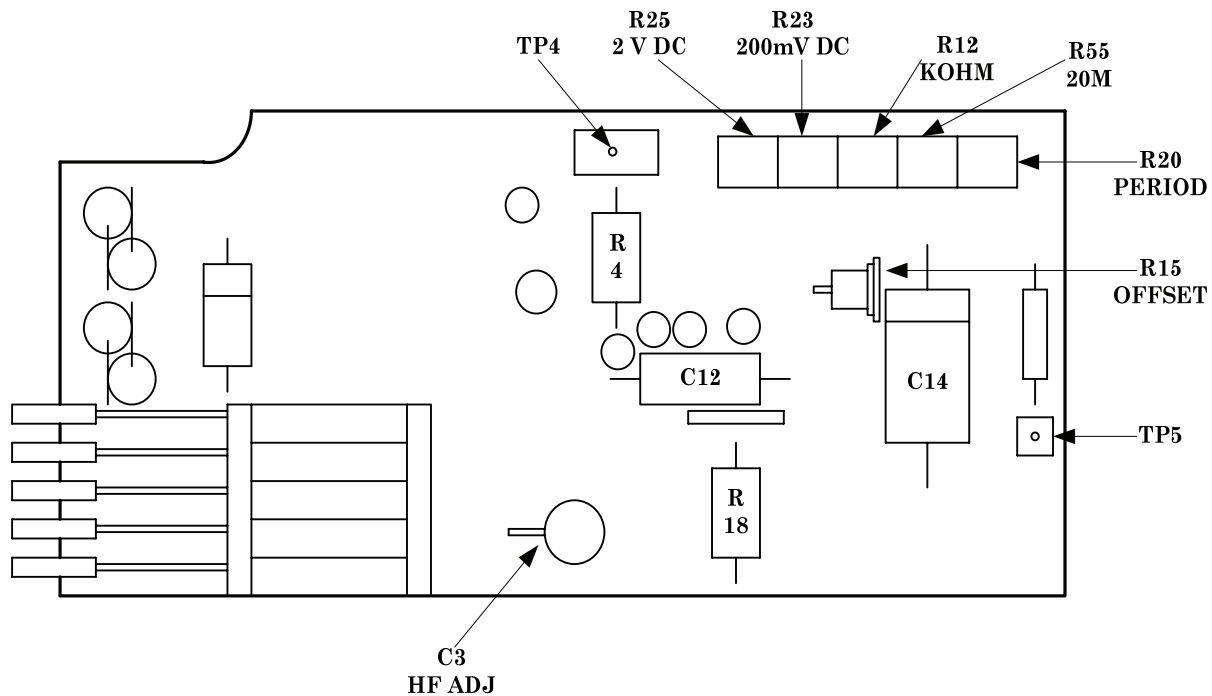

Figure 1. Model 8000A – top view.
- e. Short **V-Ω** and **COMMON** terminals. If TI does not indicate between 00.0 and 00.1, adjust R15 OFFSET (fig. 1) until TI indicates 00.0 (± sign flashing).
(1) Adjust calibrator for a 190 mV dc output. Adjust R23 200mV DC (fig. 1) until TI indicates 190.0 mV dc. Reverse leads and adjust R15 OFFSET (fig. 1) until TI indicates -190.0 mV dc(R).
(2) Adjust calibrator for a 1.9 V dc output. Adjust R25 2V DC (fig. 1) until TI indicates 1.900 V dc (R).
**b. Adjustments.** Adjust calibrator output voltage to 19 V ac @ 20 kHz. Adjust C3 HF ADJ (fig. 1) until TI indicates 19.00 V ac (R).
- (1) Set calibrator for 19.00 MΩ. Adjust R55 20M (fig. 1) until TI indicates actual resistance of calibrator (R).
- (2) Adjust calibrator for 19.00 kΩ. Adjust R12 KOHM (fig. 1) until TI indicates actual resistance of calibrator (R).